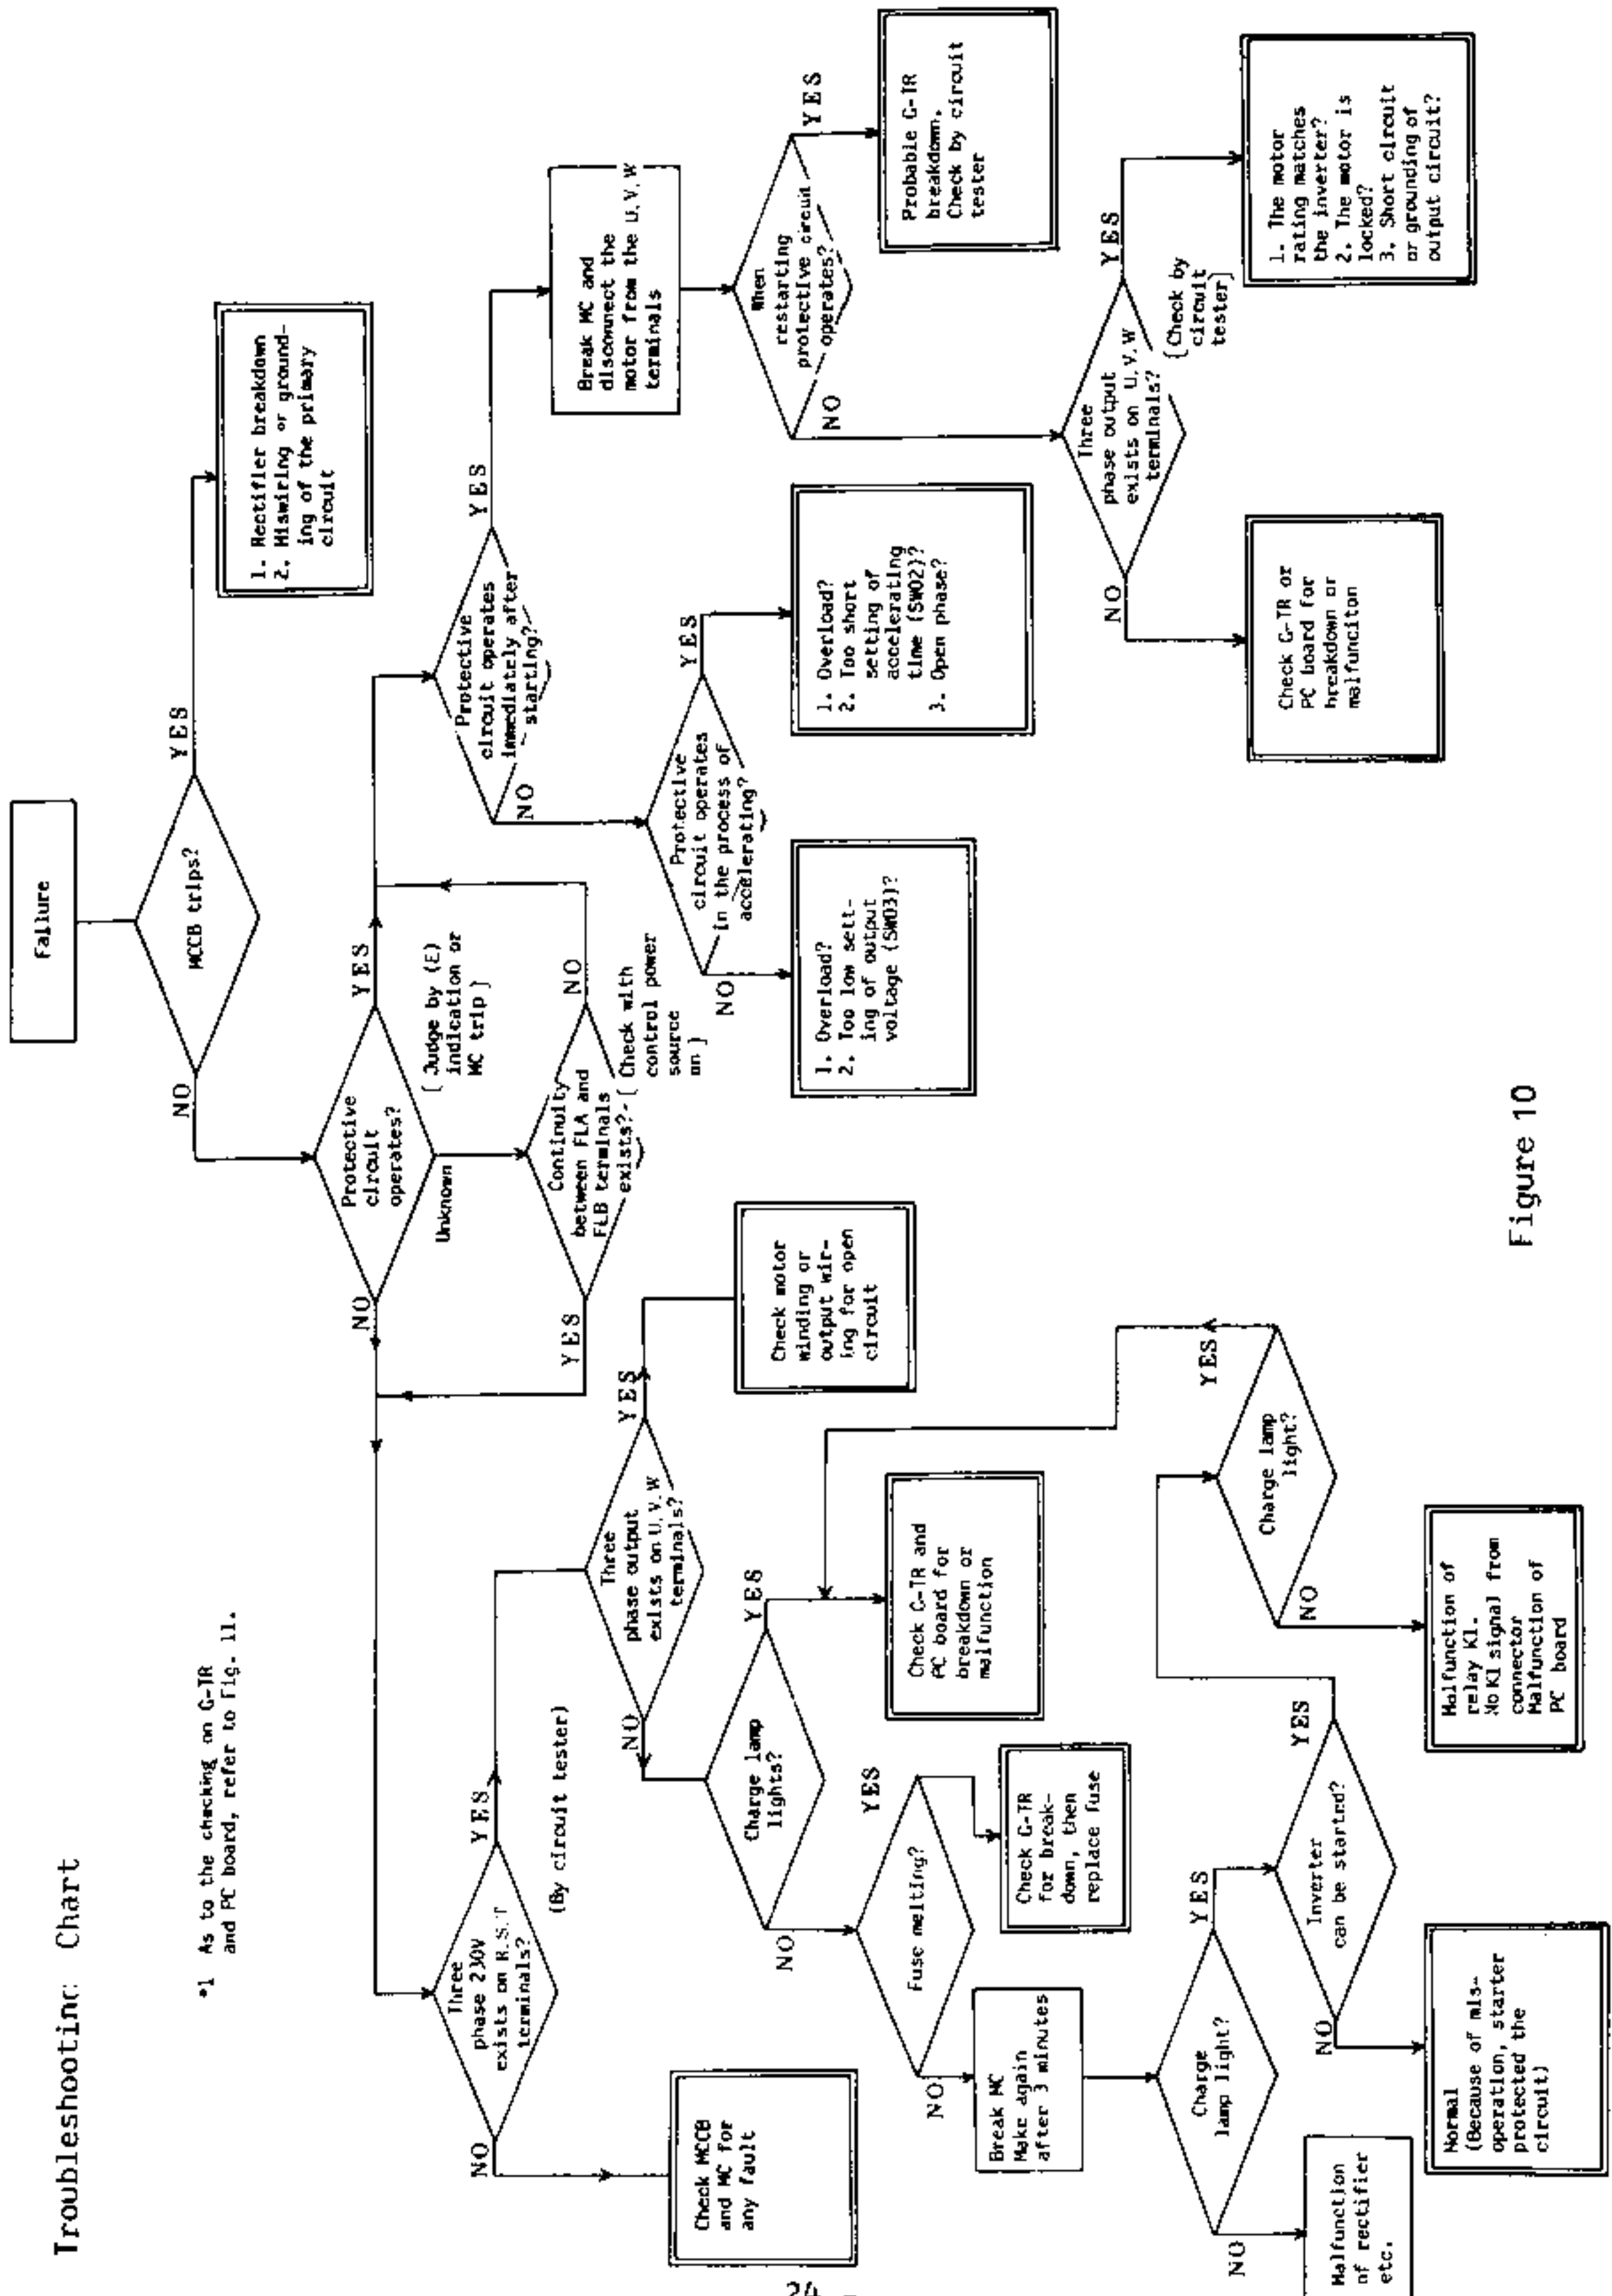

Figure 10
- (1) Figure 10 shows a flow chart to be followed in case the motor fails to run when the inverter is put in operation.